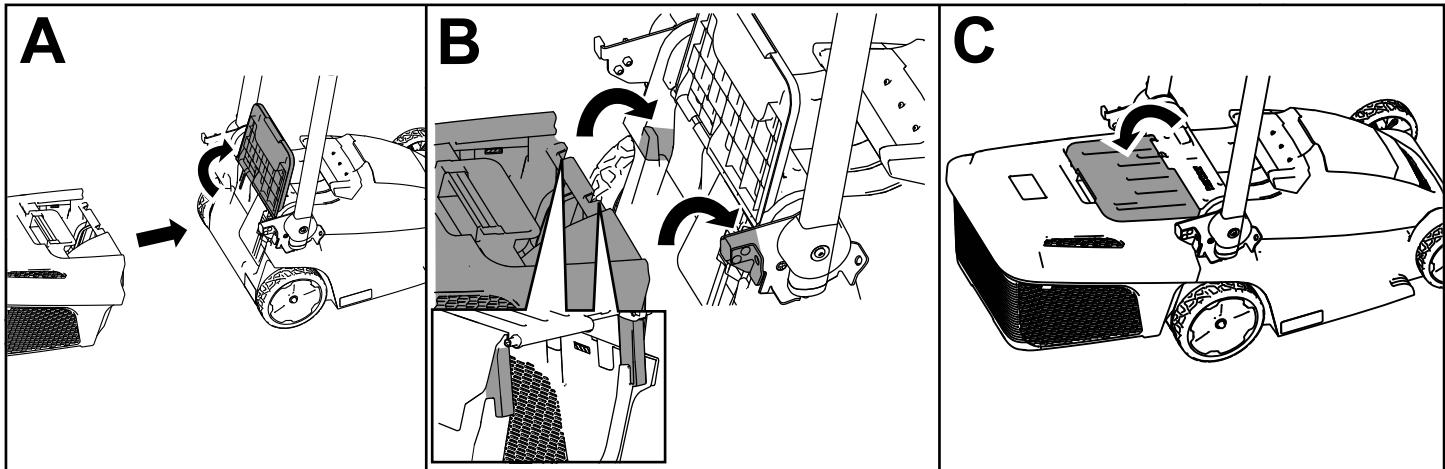

Figure 14
1. Move the handle into the upright position and lift up the rear deflector (A of Figure 14).
2. Install the hooks of the grass box into the notches on the rear of the machine (B of Figure 14).
3. Allow the rear deflector to rest on the box (C of Figure 14).